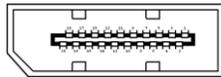

Figure 4-35: DP Connector
- CN Location:** See **Figure 4-35**